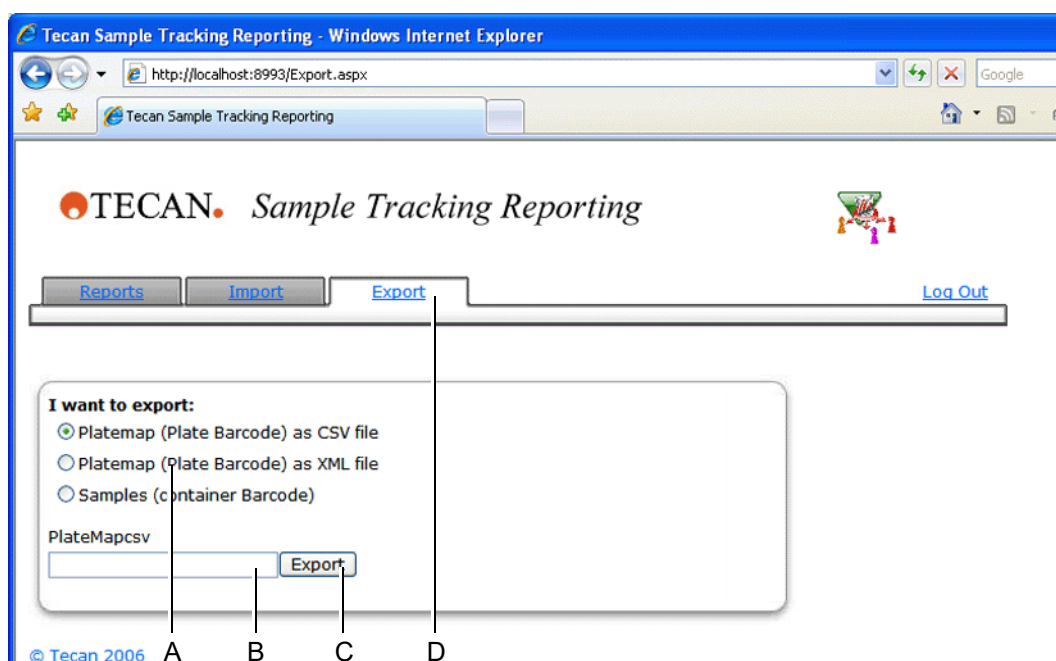

Fig. 7-7 Tab Export
- ♦ Select the tab **Export** (D) to display the export screen Fig. 7-7, 7-11: